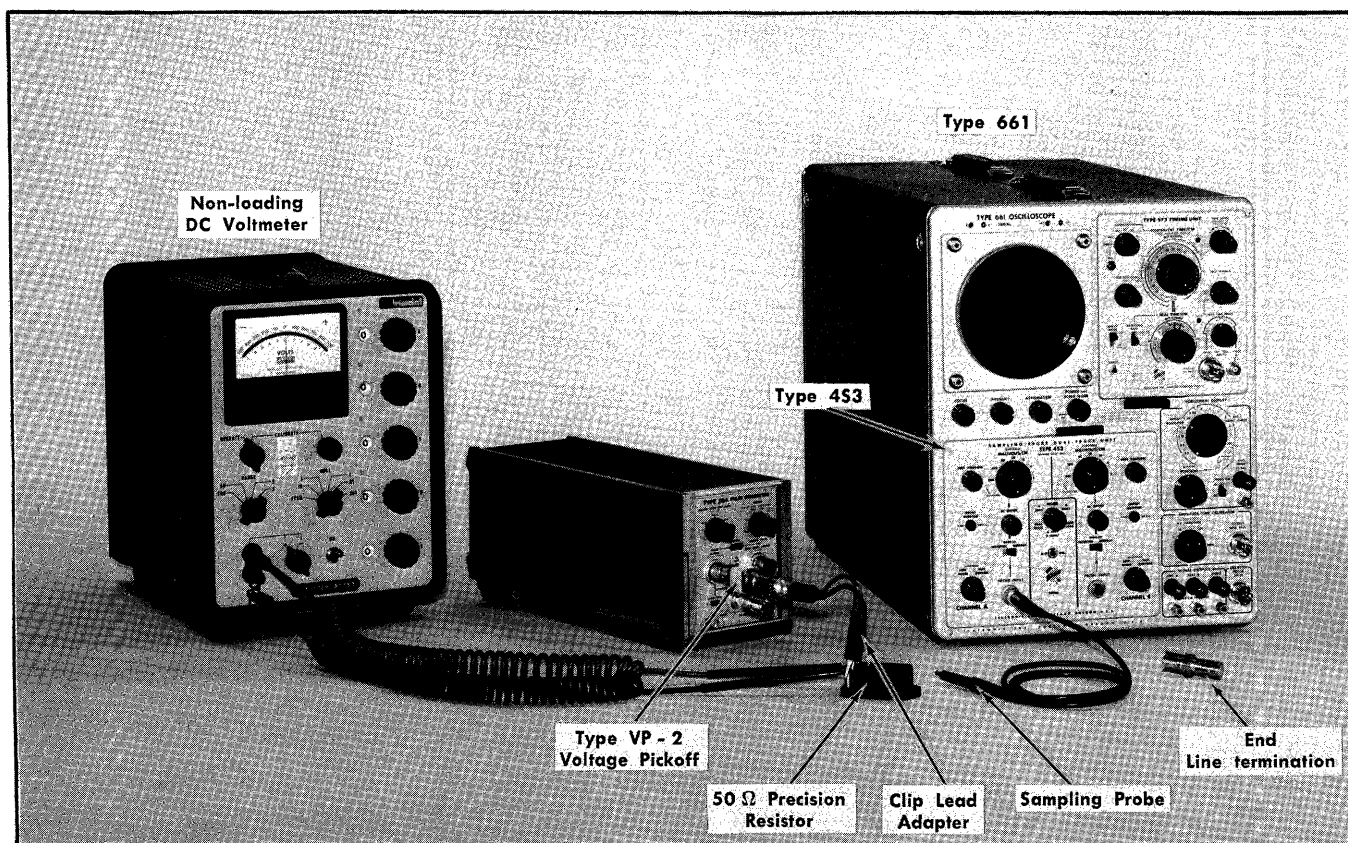
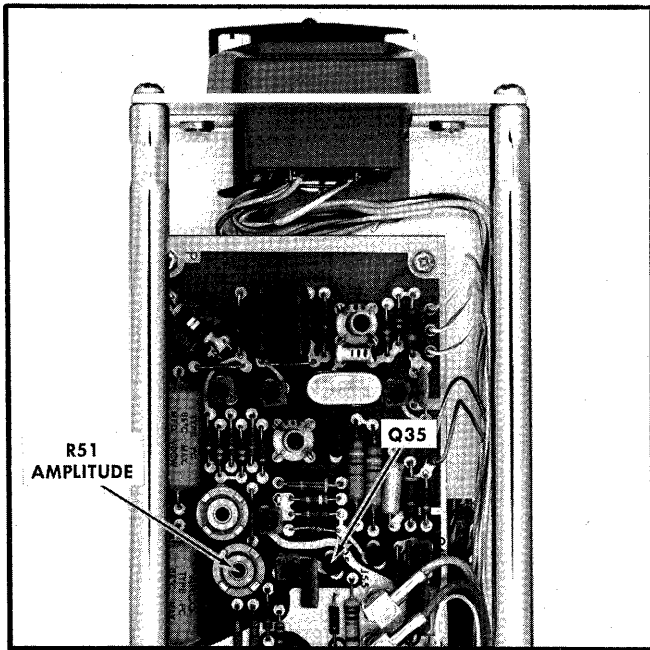

Fig. 6-6. Initial setup of test equipment used in step 4.
Fig. 6-7. Locations of adjustments in step 4.
**4. Adjust Square Wave Amplitude, R51 ①**
a. Use equipment setup shown in Fig. 6-6.
b. Connect the 50  $\Omega$  resistor, (item 21 on equipment required list) by a BNC clip lead adapter through a BNC to GR adapter and a voltage pickoff VP-2 to the SQUARE WAVE OR SINE WAVE OUTPUT connector on the Type 284. Connect the precision voltmeter (item 2 in equipment list) across the resistor. If you use a precision resistor with a single coaxial connector a Tee connector can be used.
c. Remove Q35 from its socket (see Fig. 6-7 for location).